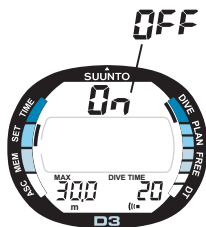

Fig. 4.15. Dive Time Alarm. Display when more than 5 minutes dive time left.
6. While the dive time minutes are selected (blinking), press + or - to change the time. If the time is less than five (5) minutes, the dive time alarm seconds can also be set. This feature can be used for freediving (Fig. 4.11.). If the selected time is over 5 minutes no seconds are displayed (Fig. 4.15.)